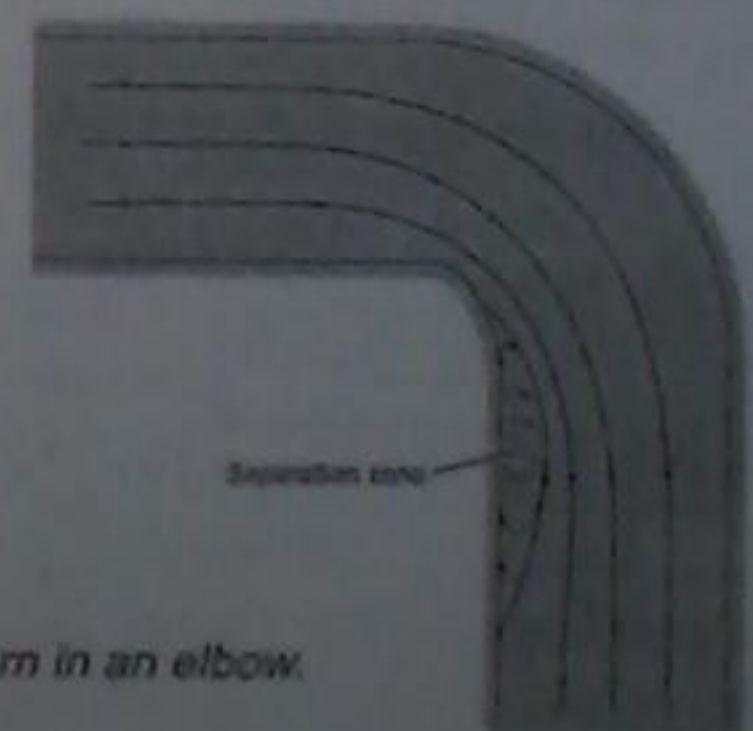

Figure 10.16 Flow pattern in an elbow.
**Flow in an Elbow.** In an elbow (90° smooth bend), considerable head loss is produced by secondary flows and by separation that occurs near the inside of the bend and downstream of the midsection as shown in Fig. 10.16.